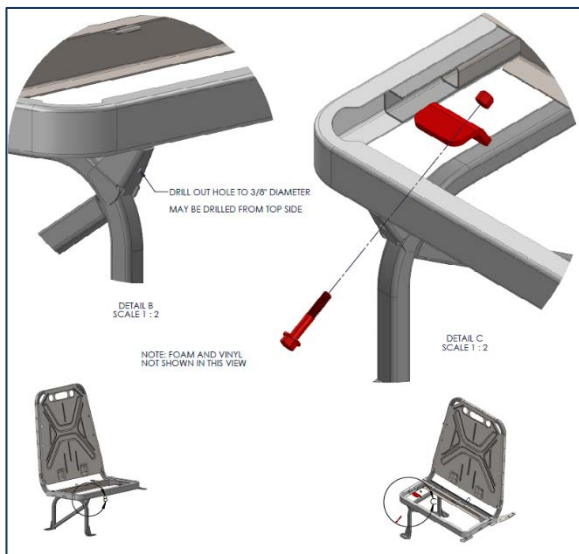

Figure 8: Drilling and Attachment Location
10. Using a 3/8 inch bit, drill a hole in the location shown in **Figure 8** (drilling from top side is recommended).